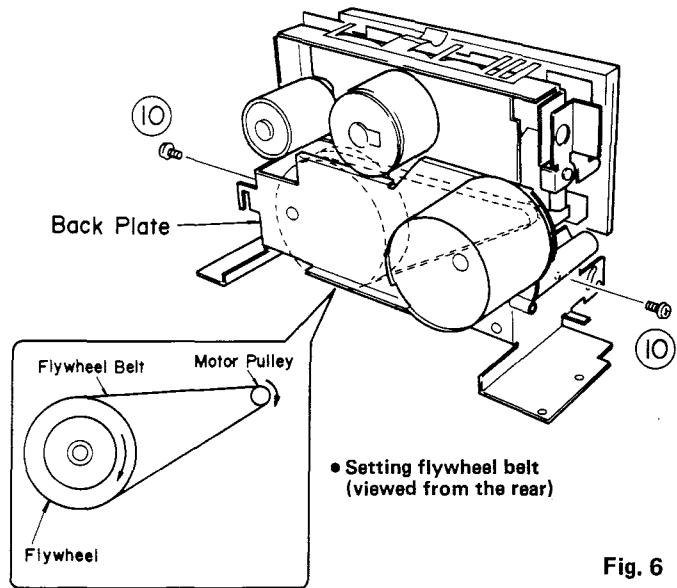

Fig. 6
- a. Remove 2 screws (10) in Fig. 6, then remove the back plate.
- b. Remove the back plate (Refer to Fig. 6.)